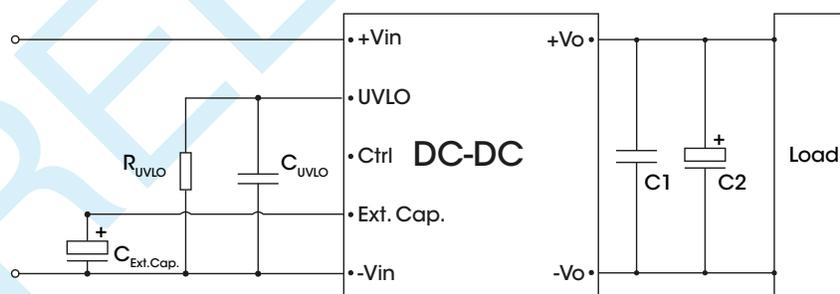

Figure 9. Power-off protection time recommended circuit
3. The UVLO pin can adjust the point of input under-voltage protection by the external resistance  $R_{UVLO}$ , for the value of  $R_{UVLO}$ , please refer to Fig.9. If the pin is open circuit, the point of input under-voltage protection is 11 V.